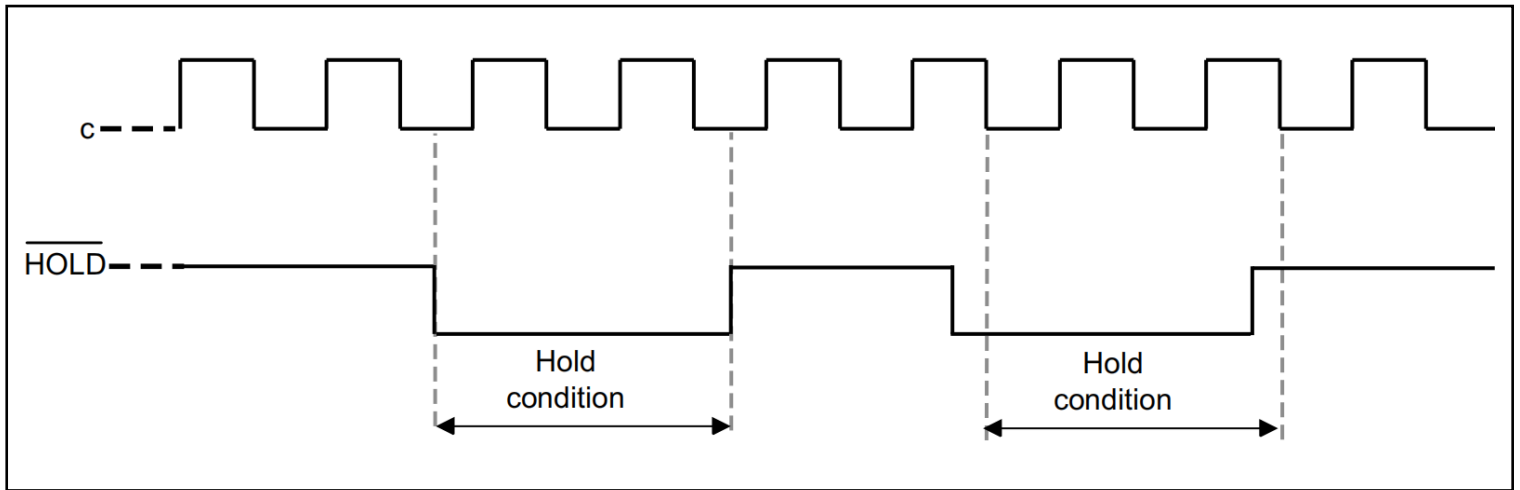

Figure5. Hold condition activation
The Hold condition starts when the Hold (HOLD) signal is driven low when Serial Clock (C) is already low (as shown in Figure 5).
Figure 5 also shows what happens if the rising and falling edges are not timed to coincide with Serial Clock (C) being low.